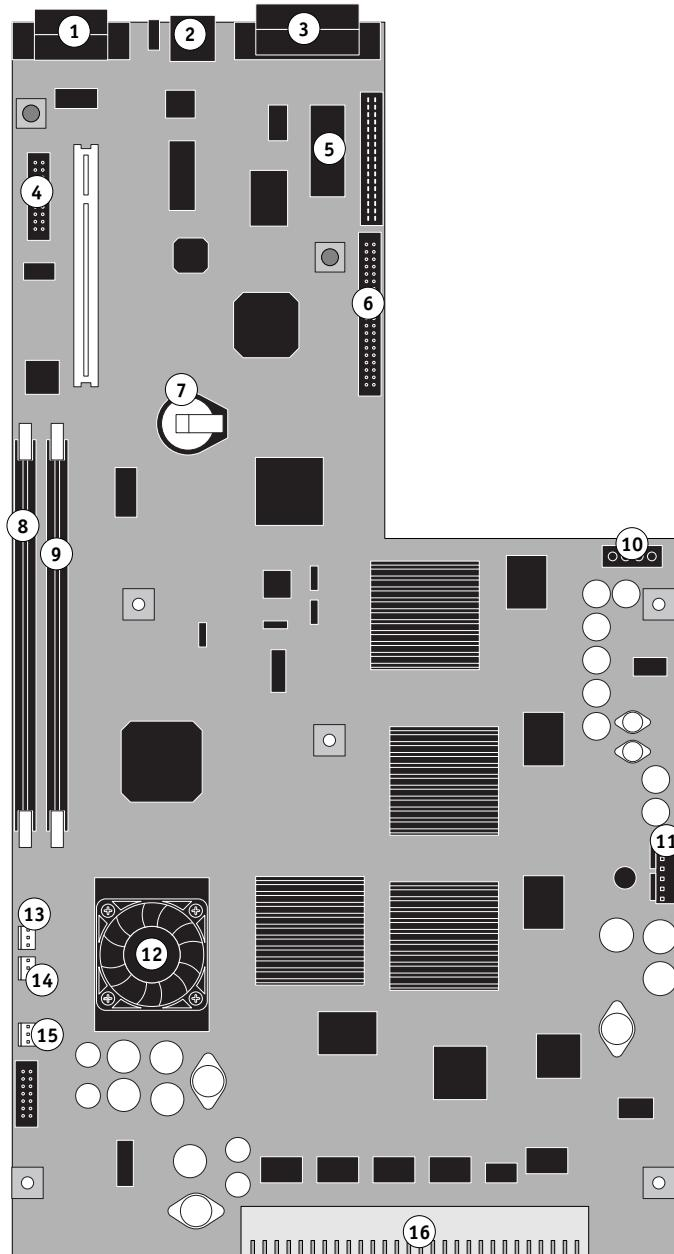

FIGURE 3-4 E-750 board
The E-750 board has two DIMM sockets (see Figure 3-4 on page 3-8 and also “DIMMs” on page 3-13). The E-750 board is configured with 256MB of memory at the factory.
3. **Make sure that all E-750 cables and the DIMM(s) are properly aligned and well seated on their E-750 connectors. For connector and DIMM socket locations on the E-750, see Figure 3-4 on page 3-8.**
1. Locate the battery on the E-750 board socket BT200 (see Figure 3-4 on page 3-8).